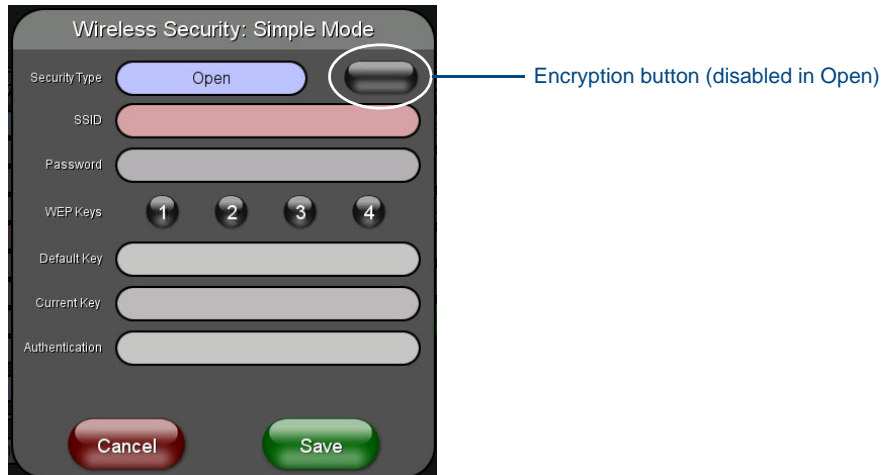

FIG. 20 Wireless Security page
2. From the *Information/Configuration* section of the *Wireless Settings* page, press the **Simple** button to open the *Wireless Security: Simple Mode* popup window (FIG. 20).